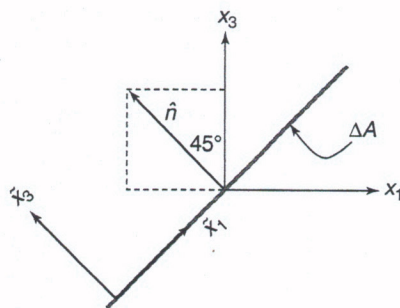

Figure 4.73
23. What is the total vector force on a $0.550 \text{ m} \times 1.00 \text{ m}$ rectangular plate submerged 13.0 m below the surface of a water tank and oriented as shown in Figure 4.73? Express your answer in the coordinate system shown.